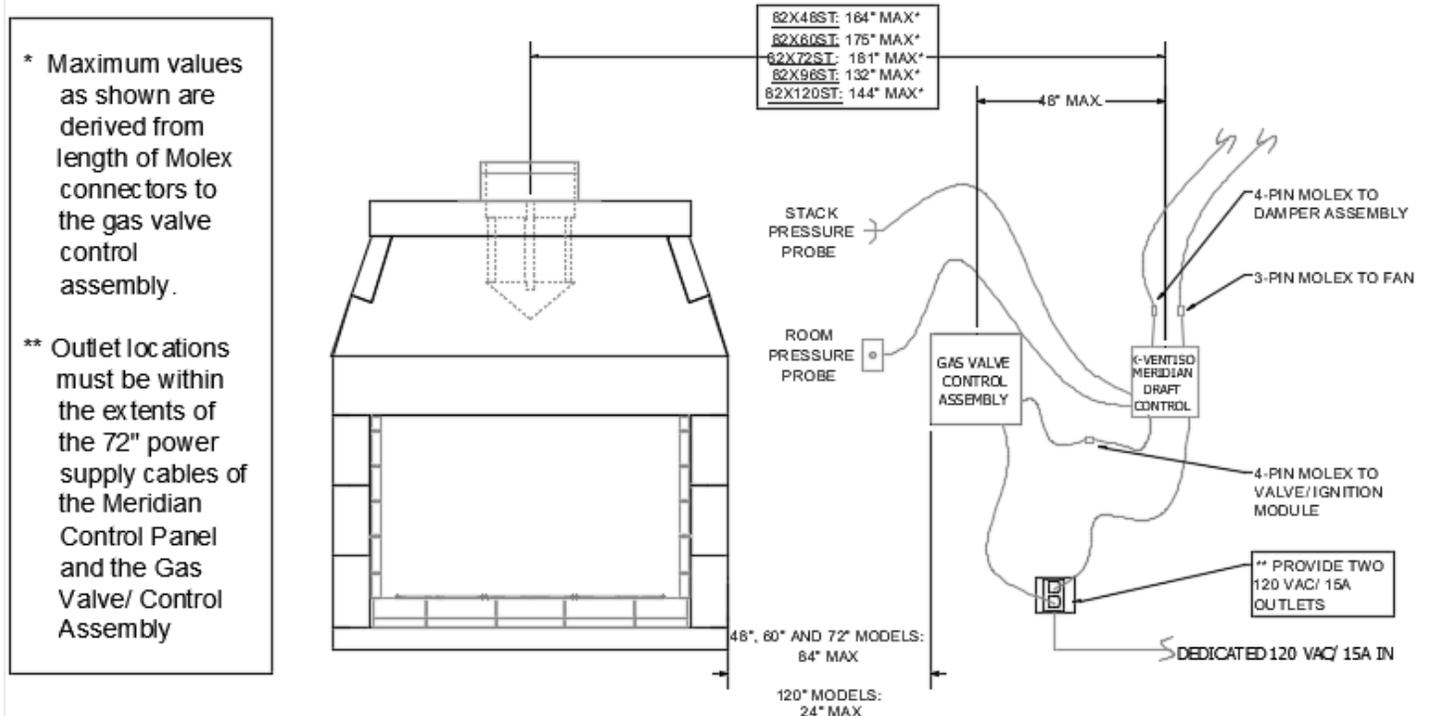

FIGURE 25
NOTE: the Isoflames XL Burner’s gas valve control box location is also dependent upon the fireplace model/ burner size. It must be located within 84” of the sidewall of the firebox for the 48”, 60”, and 72” XCELUX SEE-THRU and within 24” for the 96” and 120” XCELUX SEE-THRU **(Figure 25)**.
- 3) Connect the top port of the Meridian Control Panel's pressure ports with the supplied tubing to the "Stack Pressure" vent probe (Figure 25, 26 & 27). This will be connected to the chimney at a location 12" above the anchor plate.
- 4) Connect the lower port of the Meridian Control Panel's pressure ports with the supplied tubing to the "Room Pressure" probe/cover plate (Figure 25, 26 & 27). The other end will be connected in a suitable location in the room in which the fireplace is installed. This location must be in the same pressure zone as the fireplace opening, and within reach of the supplied tubing's connection to the X-VENTISO Meridian Draft Control Panel. Do not locate sensor in close proximity to exterior doors, opening windows, supply air diffusers, or other known air disturbances. The tubing measures 20ft.